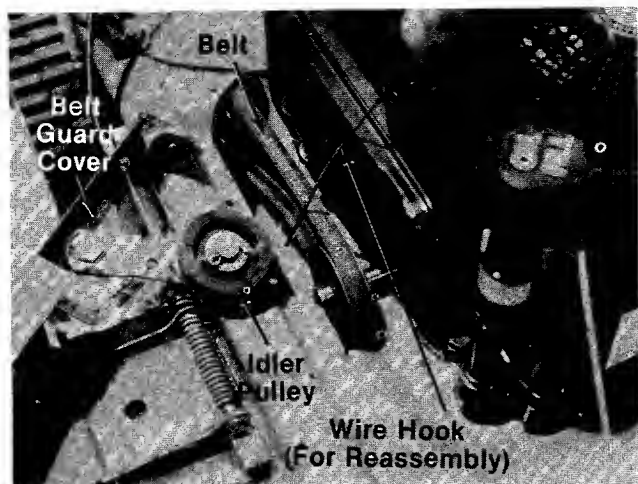

FIGURE 19.
6. Unhook the belt from the idler pulley. See figure 19.
When reassembling the idler pulley and belt guard cover, place a wire hook under the belt. Pull up on the hook, and slip the idler pulley under belt. See figure 19.